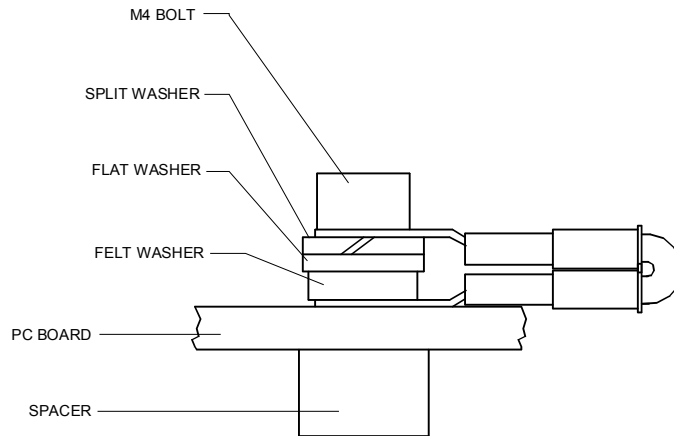

Figure 47. Ground Jumper
- b. Using a 3 mm Allen wrench and a 7mm wrench remove the nuts from the bolts that secure the Spare Boards together. You will be using these bolts to secure the spare set in your system. DO NOT change the position of any of the bolts. The bolt containing the felt washers and ground jumper must remain in the same position (see Figure 47, page 130).